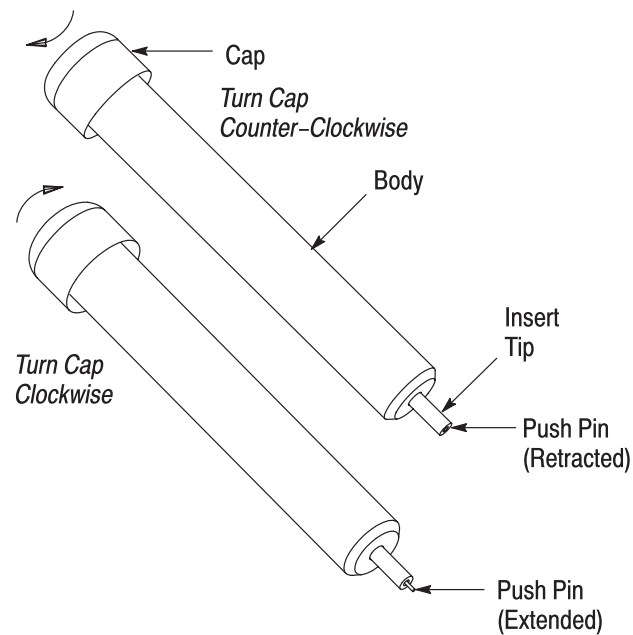

Figure 1
Extraction Tool Assembly 1976935-1, shown in Figure 1, is used to remove individual contacts from Z-PACK TINMAN connectors.
Each tool features a cap, body, and insert tip. The insert tip contains a spring-loaded push pin. The push pin extends and retracts when the cap is turned. See Figure 1. During extraction, the push pin pushes the contact out of the pc board and the connector.
1. If the tips of the contacts are exposed, make sure that the push pin of the tool is retracted inside the insert tip. To retract the push pin, turn the cap *counter-clockwise*. See Figure 1.